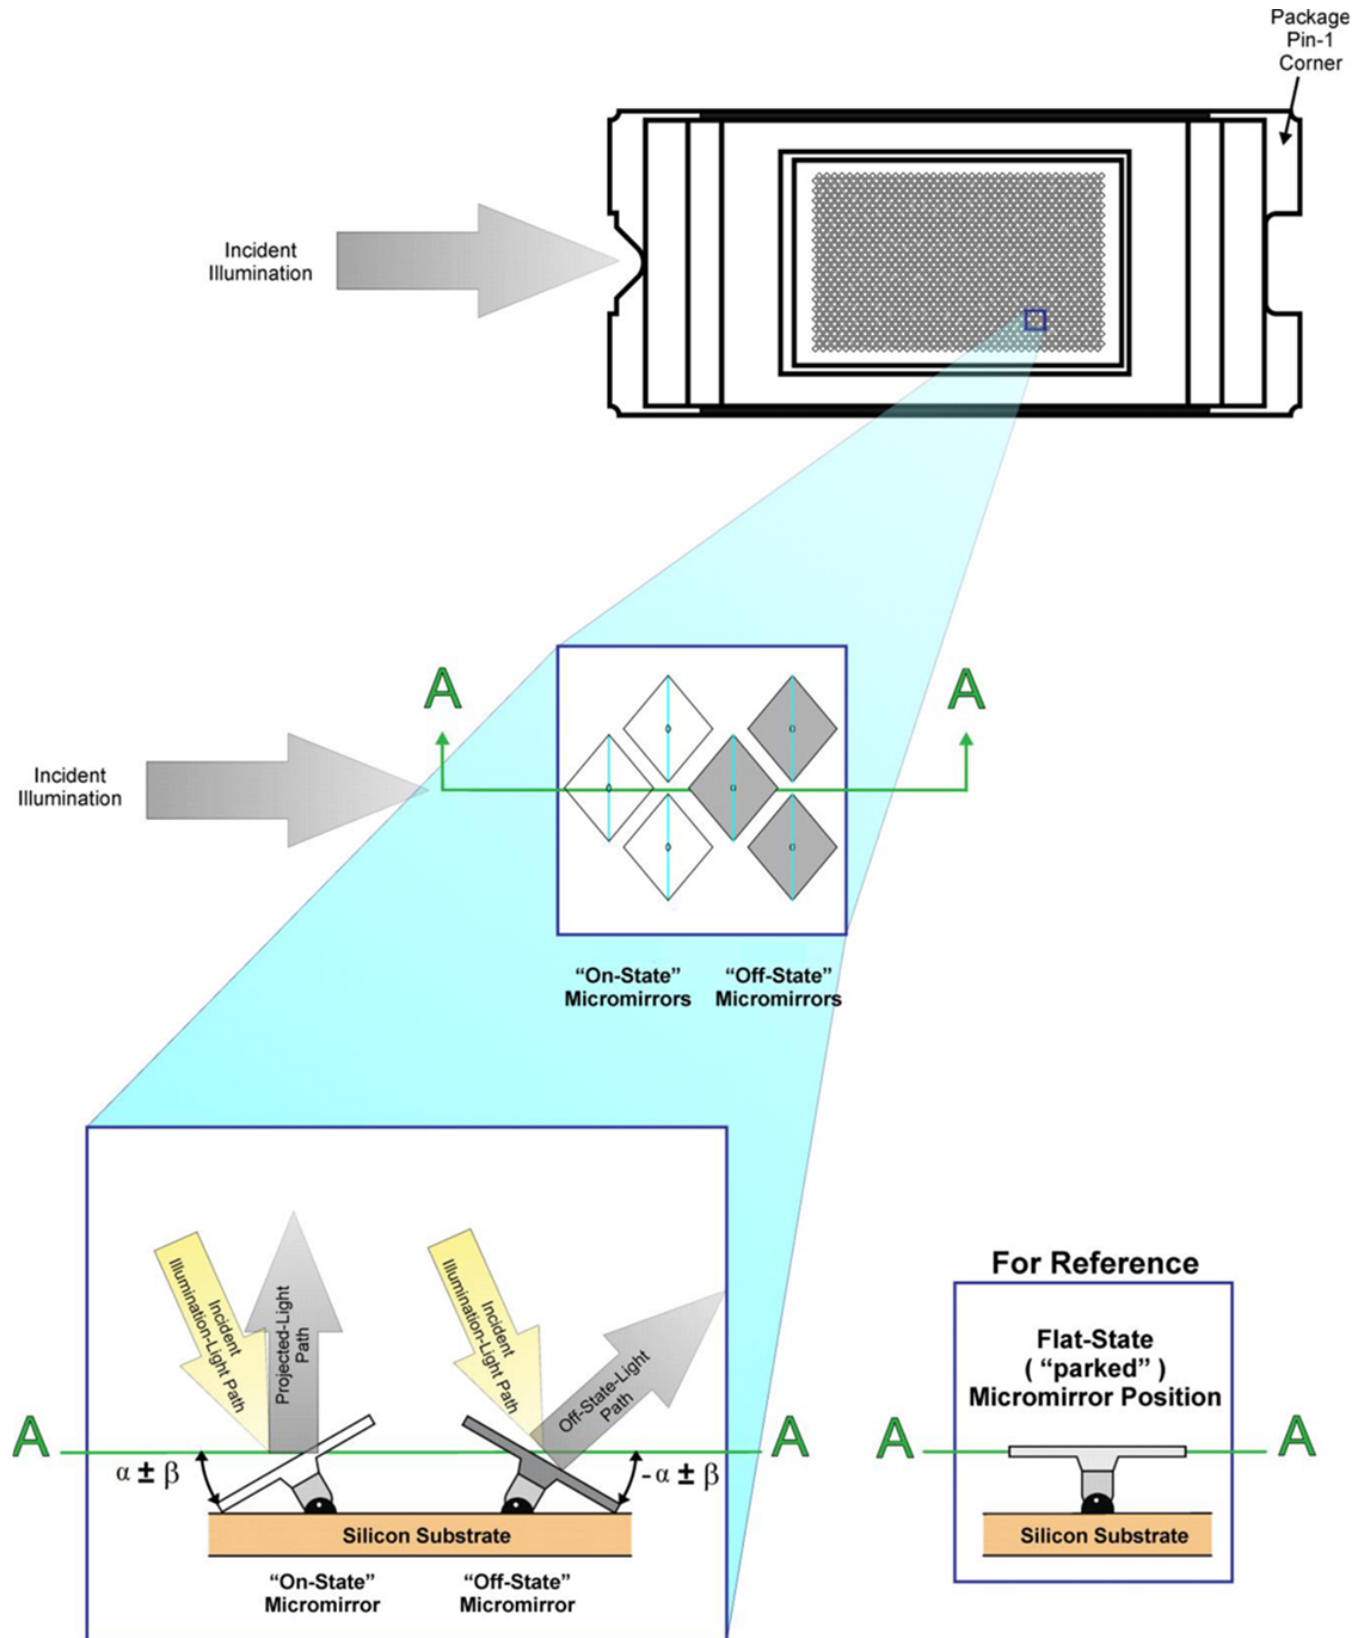

Figure 8. Micromirror Landed Positions and Light Paths
- (1) Measured relative to the plane formed by the overall micromirror array.
- (2) *Parking* the micromirror array returns all of the micromirrors to a relatively flat (0°) state (as measured relative to the plane formed by the overall micromirror array).
- (3) When the micromirror array is *parked*, the tilt angle of each individual micromirror is uncontrolled.
- (4) See Figure 8.
- (5) Additional variation exists between the micromirror array and the package datums.
- (6) When the micromirror array is *landed*, the tilt angle of each individual micromirror is dictated by the binary contents of the CMOS memory cell associated with each individual micromirror. A binary value of 1 results in a micromirror *landing* in an nominal angular position of +12°. A binary value of 0 results in a micromirror *landing* in an nominal angular position of –12°.
- (7) Represents the *landed* tilt angle variation relative to the nominal *landed* tilt angle
- (8) Represents the variation that can occur between any two individual micromirrors, located on the same device or located on different devices.
- (9) For some applications, it is critical to account for the micromirror tilt angle variation in the overall system optical design. With some system optical designs, the micromirror tilt angle variation within a device may result in perceivable non-uniformities in the light field reflected from the micromirror array. With some system optical designs, the micromirror tilt angle variation between devices may result in colorimetry variations or system contrast variations.
- (10) Micromirror crossover time is primarily a function of the natural response time of the micromirrors.
- (11) Performance as measured at the start of life.
- (12) Non-operating micromirror is defined as a micromirror that is unable to transition nominally from the –12° position to +12° or vice versa.
- (13) Measured relative to the package datums B and C, shown in the Package Mechanical Data section in Mechanical, Packaging, and Orderable Information.
- (14) The nominal DMD total optical efficiency results from the following four components:
Each micromirror is switchable between two discrete angular positions: -12° and 12° . The angular positions α and β are measured relative to a 0° flat reference when the mirrors are parked in their inactive state, parallel to the array plane (see Figure 8). The parked position is not a latched position. Individual micromirror angular positions are relatively flat, but do vary. The tilt direction is perpendicular to the hinge-axis. The on-state landed position is directed toward the left side of the package (see Figure 8).